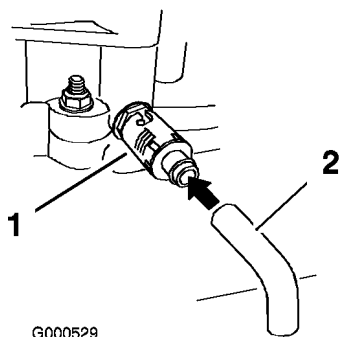

Figure 26
- Place a pan below the drain hose. Rotate oil drain valve to allow oil to drain (Figure 26).
- Remove the drain hose (Figure 26).